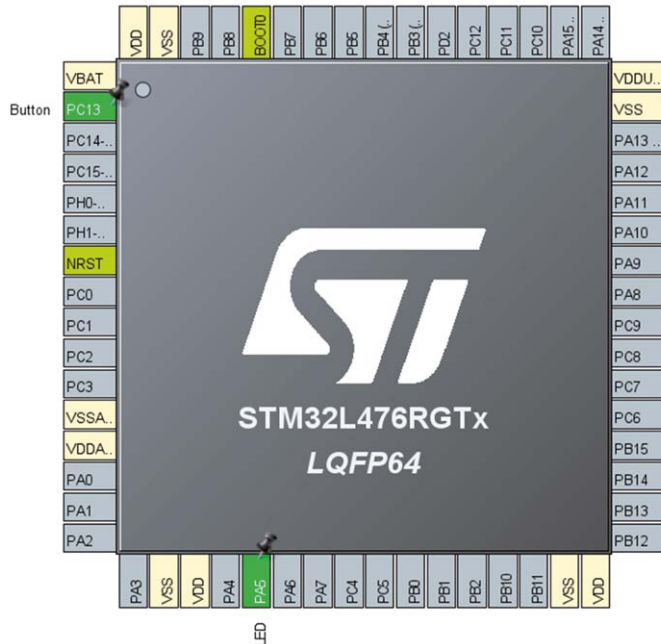

Figure 15.11: Configure PA5 and PC13.
- Configure **PA5** as digital output and **PC13** as **GPIO\_EXTI13**. Right click the mouse and set the label of PA5 as **LED** and the label of PC13 as **Button** (Figure 15.11).